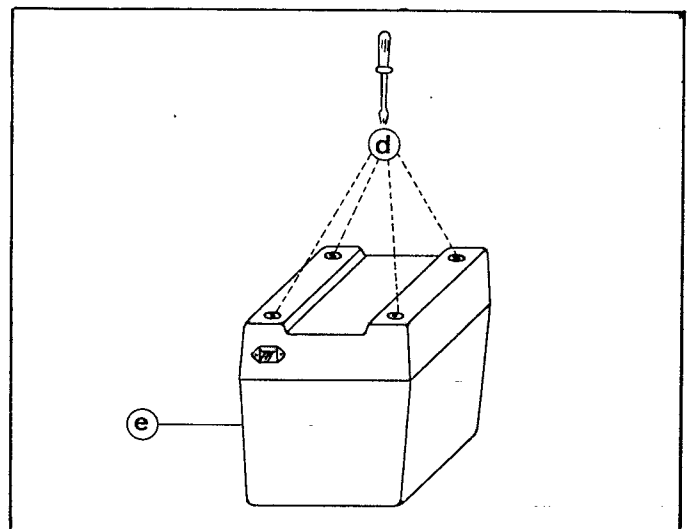

Fig. 8.1 ▲
- Use a cross-head screw-driver (size 2) to loosen screws **d** on the bottom of the unit (Fig. 8.1).